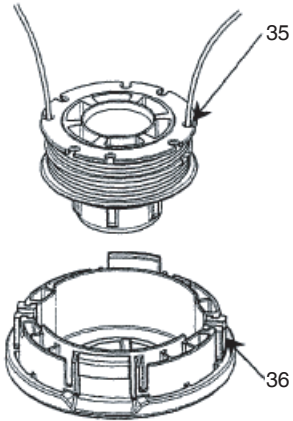

Fig. 32
(5) Insert both loose ends of the line through the cord guide (36) when placing the reel in the case. (Fig. 32)